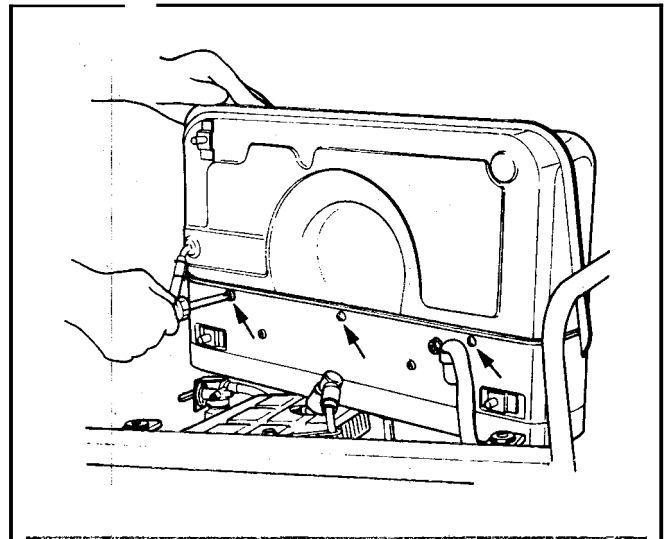

Figure 23
7. Lift the fuel tank away from the engine and remove the **five** screws retaining fuel tank to the front panel. The fuel tank is now separate from the generator. See Figure 23.